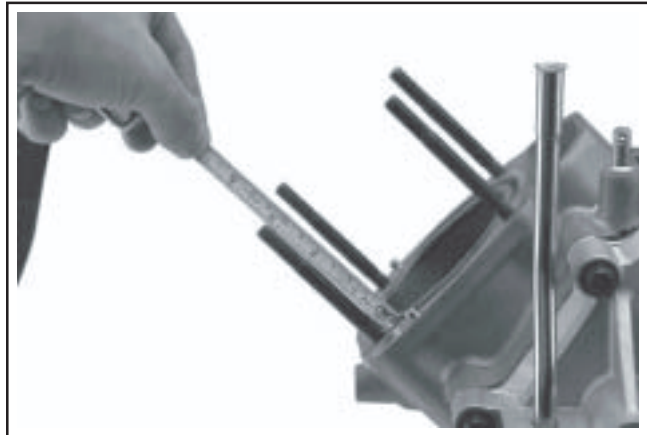

Figure 11-22. Checking Cylinder Stud Height
3. Thread the end of the stud with the Loctite® into the crankcase, until an exposed stud height of **75 mm (2 61/64 in.)** is obtained. The end with the dash mark must be **out**. See Figure 11-22. When threading in the studs, use a steady tightening motion, without interruption, until the proper height is obtained. The frictional heat from the engaging